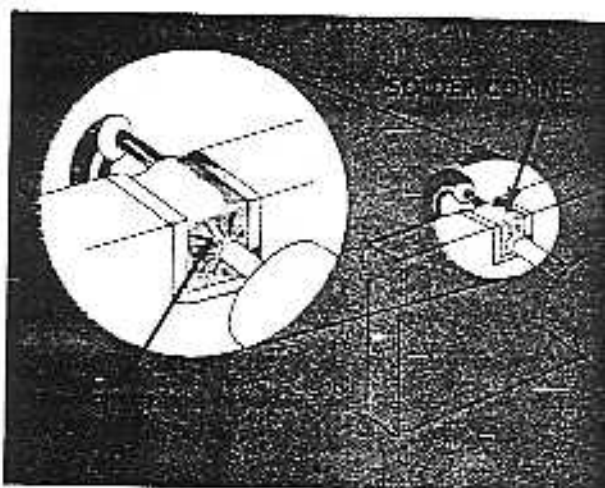

Fig. 4-3. A slight fillet of solder is formed around the wire when it is applied correctly.
4. Apply one corner of the rip to the strip where you wish to solder (see Fig. 4-3).
6. Do not attempt to fill the notch on the strip with solder; instead, apply only enough solder to cover the wires adequately, and to form a slight fillet on the wire as shown in Fig. 4-3.